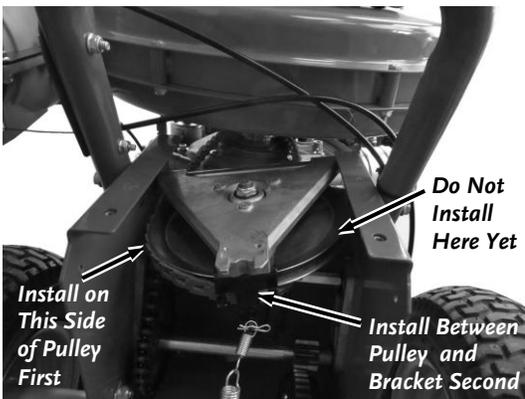

Figure 25
3. Position the Belt around the right side of the Drive Pulley First and between the Pulley and Bracket second (**Figure 25**).